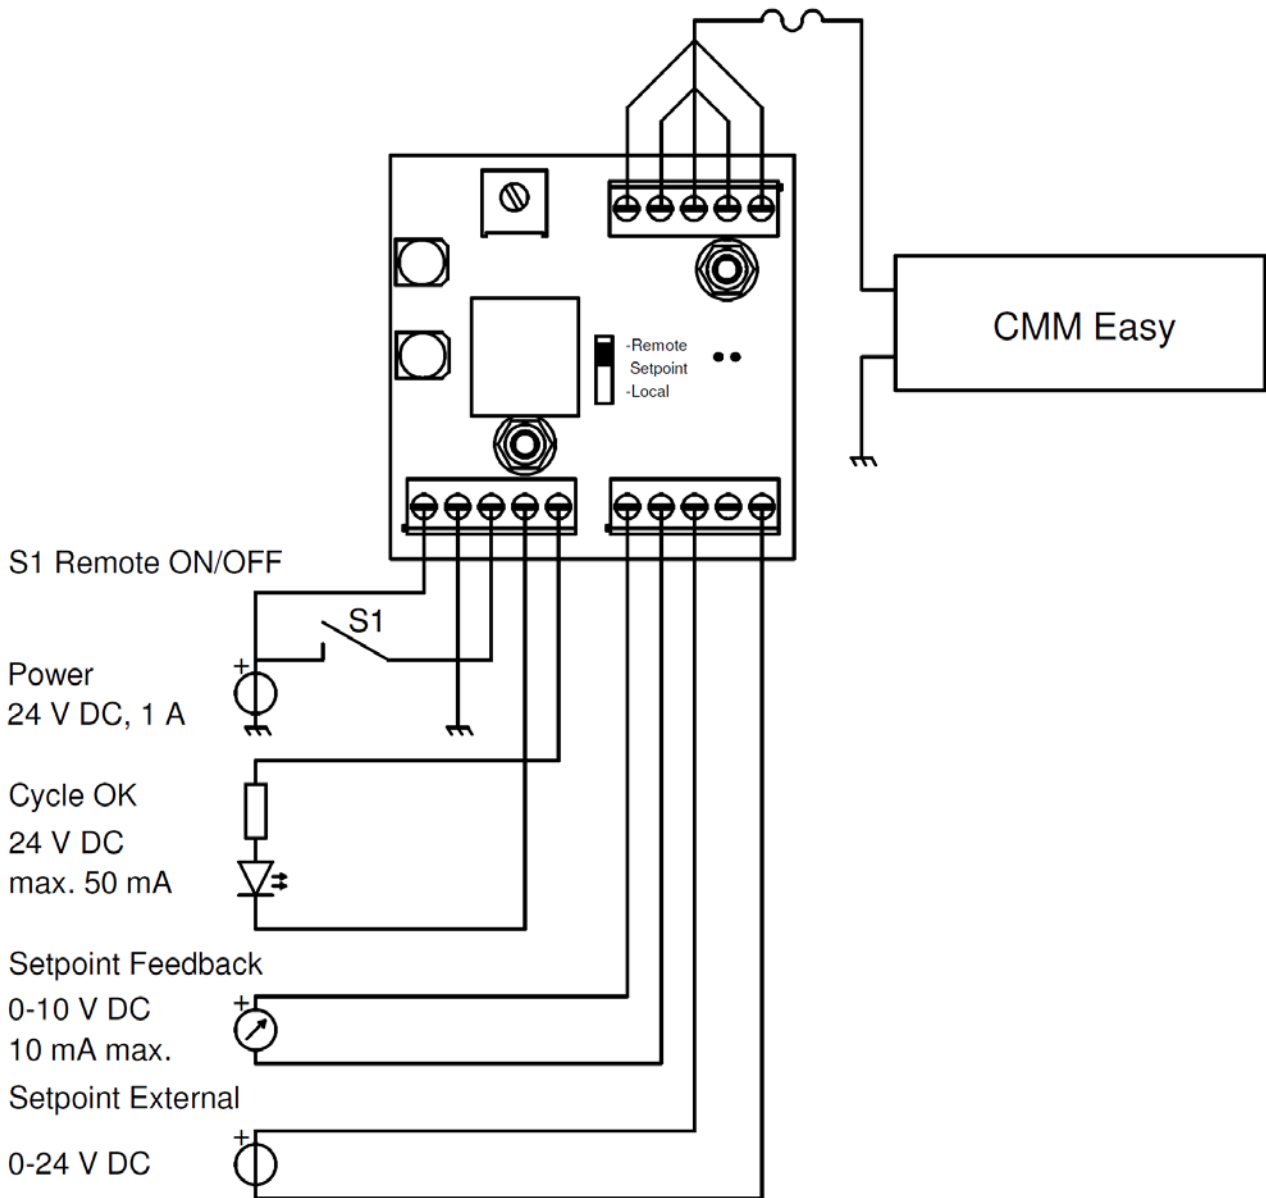

Fig. 9, wiring schedule External Control Kit Remote Setpoint 0-24 V
- For use with External Setpoint 0-24 V DC: connect the Control Kit according to fig. 9.